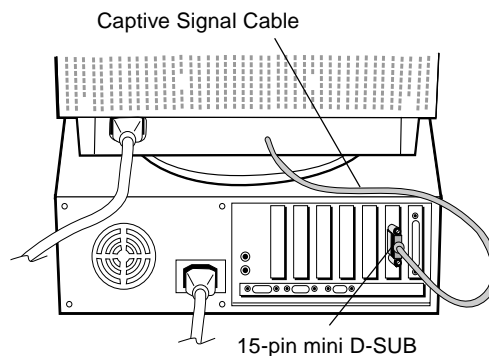

Figure A.1
3. **For the PC:** Connect the 15-pin mini D-SUB of the captive signal cable to the connector of the display card in your system (**Figure A.1**). Tighten all screws.